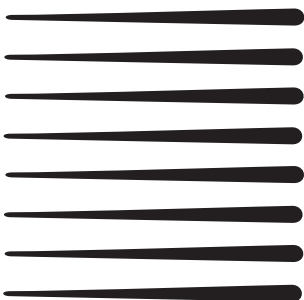

Figure 9
- Release more material and lift the air brush away from work surface to spray parallel lines graduating from narrow to broad. See Figure 9.